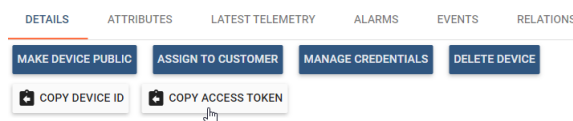

Figure 3.3: Copy Access Token
- Now select (click on the name) your device and copy the access token as show in Figure 3.3. Please **note** this token to somewhere as we will need it later on.